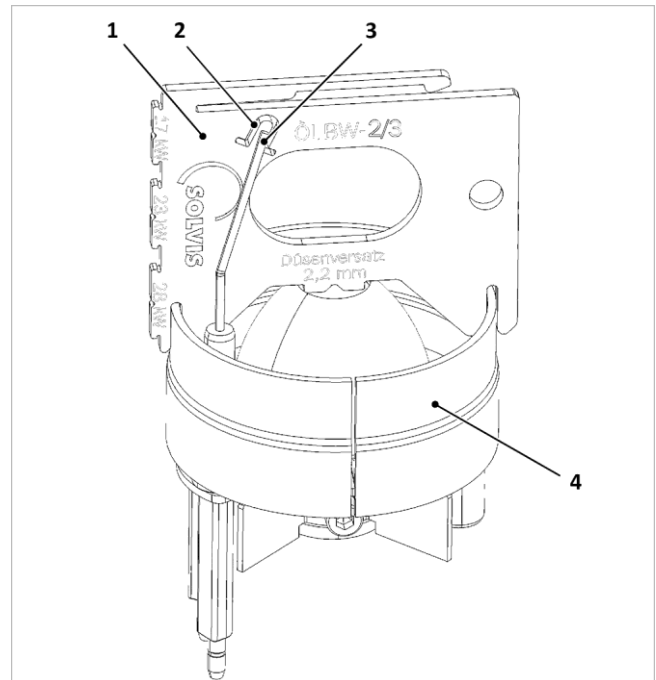

Fig. 62: Checking the position of the ignition electrodes
4. Check the electrodes as shown in the → Fig. 62 and correct them by carefully bending them, if necessary.